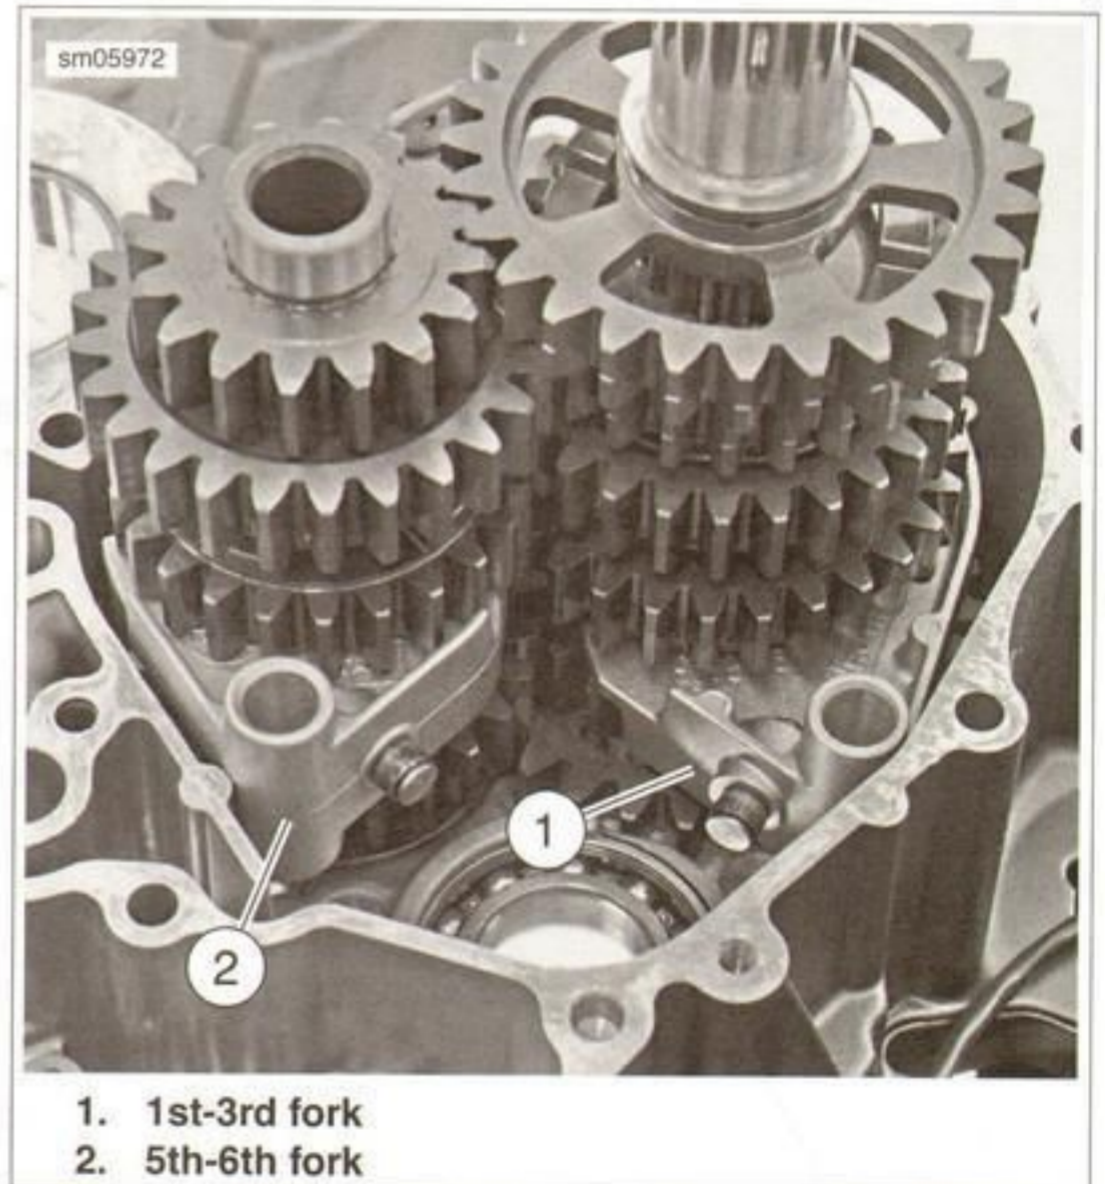

Figure 6-81. Shift Forks
3. See Figure 6-81. Install the 1st-3rd fork (1) into the dog ring on the 25T gear on the mainshaft.
4. Install the 5th-6th fork (2) in the slot between the 21T and 23T clutch shaft gears.